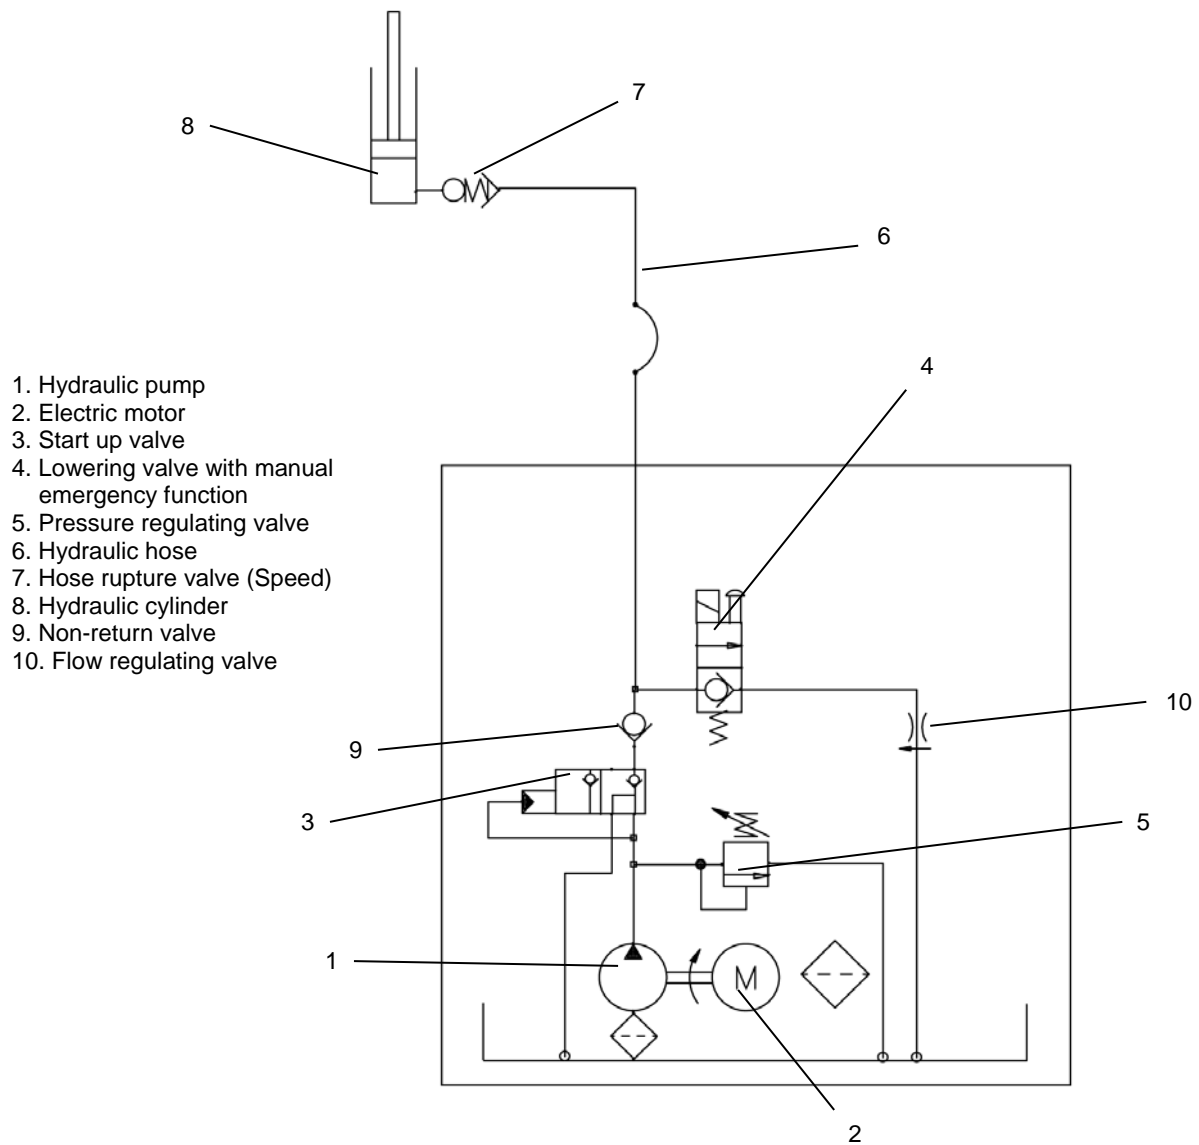

Figure 1.3 Hydraulic flow chart
The pump has a built-in pressure-regulating valve (5), see Figure 1.3, which prevents overloading. If pressure should become excessive, the pressure-regulating valve shunts oil back to the tank. The valve pressure setting is done at the factory and the valve is sealed. If oil pressure becomes excessive (overloading), the sound of the pump changes markedly.
The hydraulic cylinder has a hose malfunction valve (7), see Figure 1.3, built into the lower end of the cylinder. This valve causes the lift to lock up entirely or sink slowly in the case of a break in the hydraulic hose or other leakage.